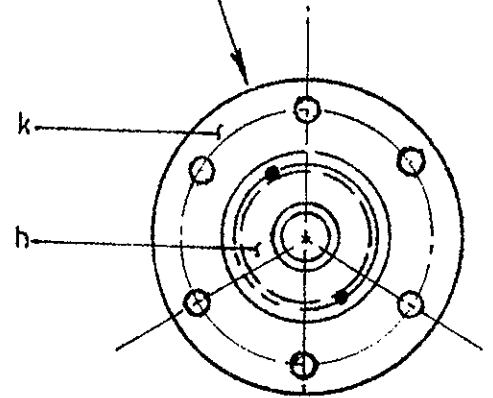

fig 3
5. ADJUSTMENT OF THE TAPERED BEARINGS (See fig. 3 and 4, page 4).